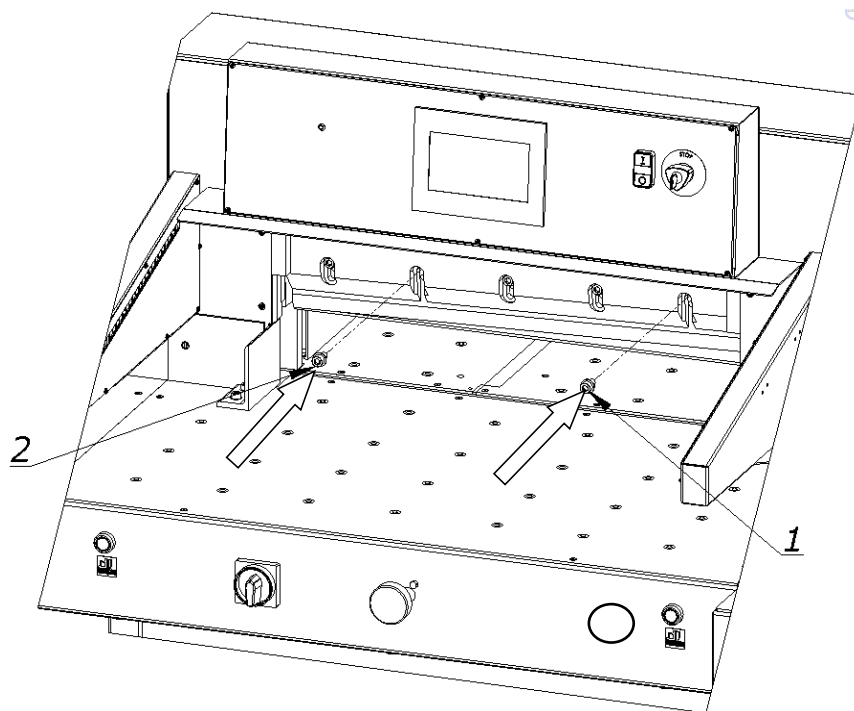

Figure 33.
8.1.2.6 Unscrew both transport lugs 1 (figure 33) and replace them with the mounting screws 1 and 2 (fig.33).